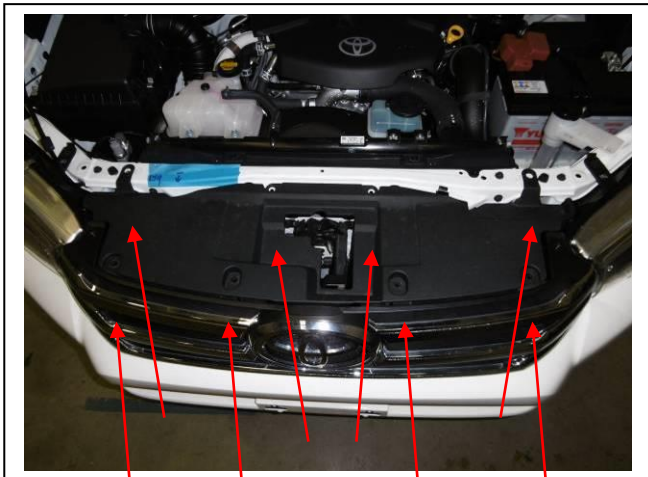

Figure 1
2. Remove eight plastic push pull clip from top panel between headlights and remove panel. **See figure 1.**